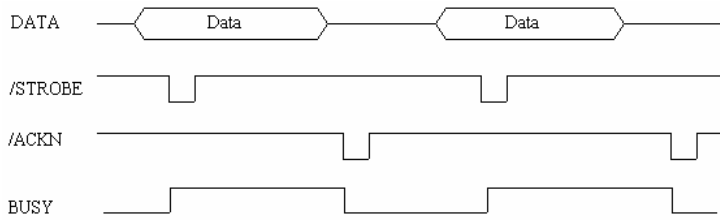

Figure 23 Centronics Port Data Exchange
Figure 23 shows the pulse scheme of a Centronics byte transmission to the printer port.
In addition, Figure 23 shows the active low signal /ACKN. With this signal the printer signalizes its readiness for receiving new data. It is prepared for an interrupt signal to a connected data transmitting device to start the transmission of a next data byte. This line is not used in the given example. Also not used are the additional printer control lines like missing paper (PE) or the common error-message /ERROR.